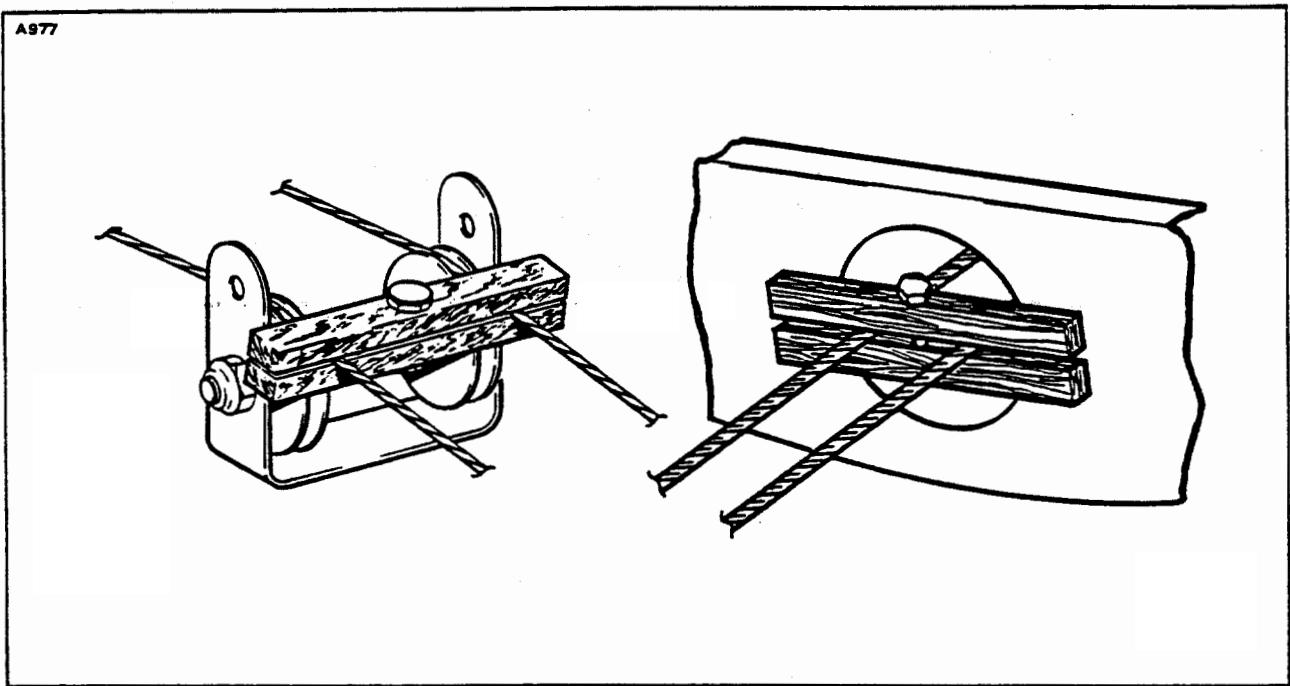

Figure 5-7. Methods of Securing Trim Cables
- b. If the aft trim cable (12) is not to be removed, block the cables at the pulleys (13) in the upper aft section of the fuselage to prevent them from unwrapping from the trim drum. (Refer to Figure 5-7.)
- c. Loosen the cables if the trim control wheel (1) is to be removed or disconnect if the cables are also to be removed. Do this at the trim cable turnbuckles (10 and 11) in the aft section of the fuselage.
- d. The control wheel (1) with drum (3) may be removed by the following procedure:
2. The wheel assembly may be removed from its mounting brackets by removing nut, washer and bolt (8) that secures the wheel between the brackets. Draw the wheel from the brackets. Use caution not to damage trim indicator wire (2).
3. Unwrap the left cable (9) from the drum.
4. The wheel and drum are joined by a push fit, separate these two items with their center bushing and unwrap the right cable (8).
- b. Block the trim cables at the first set of pulleys (33) forward of the cable turnbuckles (10 and 11) in the aft section of the fuselage by a method shown in Figure 5-7.
- c. Disconnect the cable (12) at the turnbuckles (10 and 11) in the aft section of the fuselage.
- e. Disconnect the link (25) between the trim screw (23) and the trim control arm (28) by removing the nut, washer and bolt (24) that connects the link to the screw.
- f. Remove the cotter pin from the top of the screw (23), and turn the screw down and out of the barrel (20).